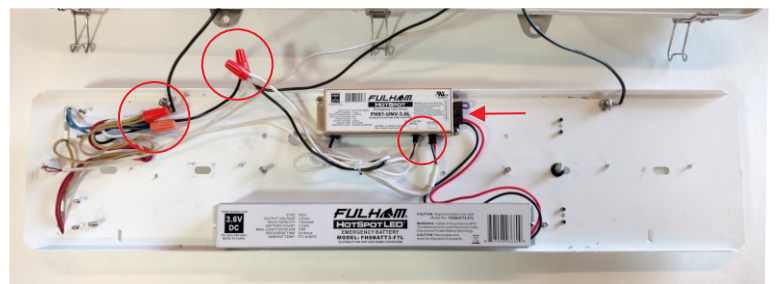

Figure 8
12. Wire all components according to the wire diagram and wiring instructions at the bottom of the page. See figure 8.